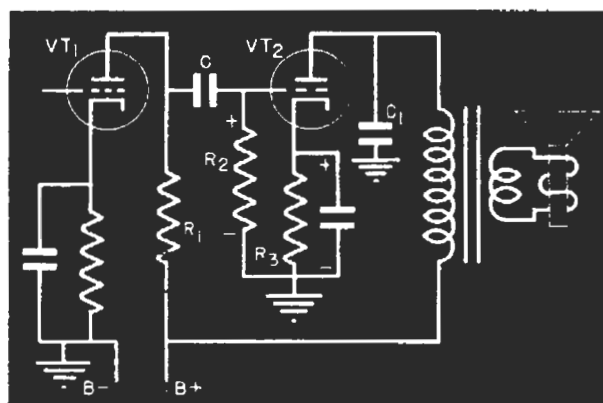

FIG. 9. Most distortion complaints are due to troubles in audio stages like this one.
tive. The self-biasing feature of tube VT_2 in Fig. 9 will compensate for small voltages across R_2 , but usually the coupling condenser leakage progresses to a point where the self bias can't keep up. The tube then operates on the upper half of its E_g-I_p curve, and a very annoying type of distortion is produced.*
► In a resistance-coupled amplifier, the most common cause of amplitude distortion is incorrect grid bias caused by a leaky coupling condenser. Fig. 9 shows a typical circuit. If condenser C leaks, R_1 , C and R_2 form a voltage divider across the B supply. The voltage developed across R_2 has the polarity shown, making the grid of the tube less negative than normal, or even posi-